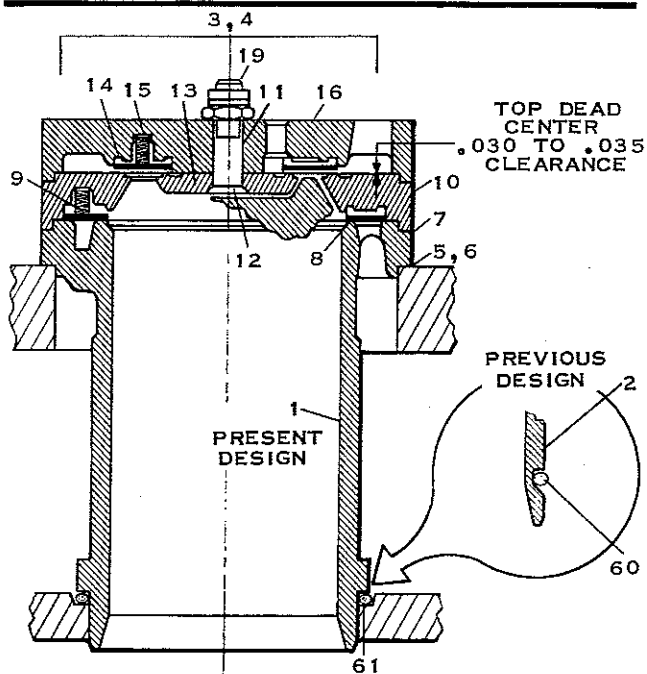

FIG. 13 — SECTION THROUGH CYLINDER (SEE
¹ See Figures 13 & 14. Present design cylinder sleeve (item 1 above and Figs. 13 & 14) has a raised flange at the bottom which fits into a recess in the compressor deck. "O" ring, item 61, must be used with cylinder sleeve, item 1. Previous design cylinder sleeve (item 2 above and Figs. 13 & 14) has a groove at the bottom to accommodate the "O" ring and the compressor deck was not recessed. "O" Ring, item 60, must be used with cylinder sleeve, item 2. *Cylinder sleeve, item 1, cannot be used in a compressor that does not have a recess in the deck. Cylinder sleeve, item 2, cannot be used in a compressor that has a recess in the deck.*